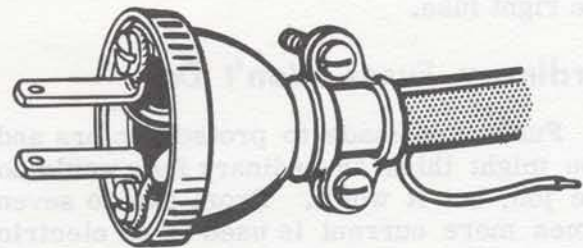

Figure 4
2. Attach wires to screws on plug. Always loop wires around screw terminals in the direction the screws tighten. (See Fig. 4)